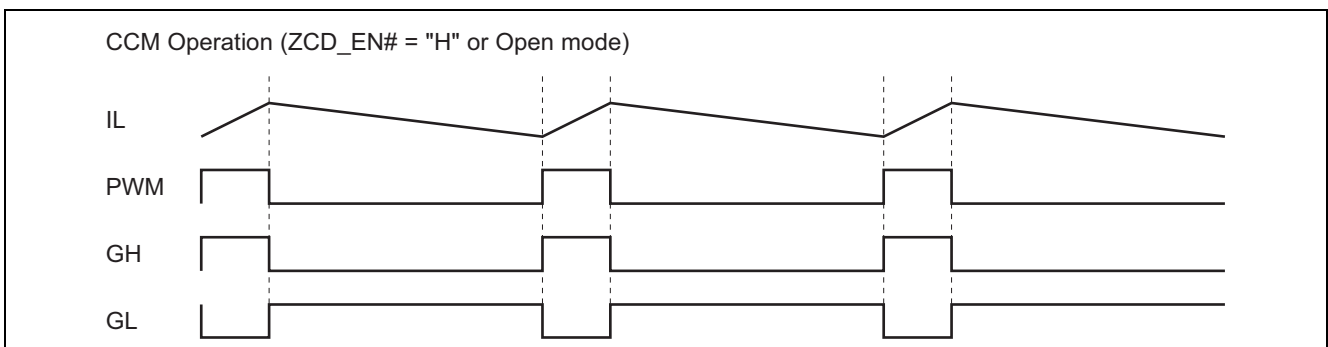
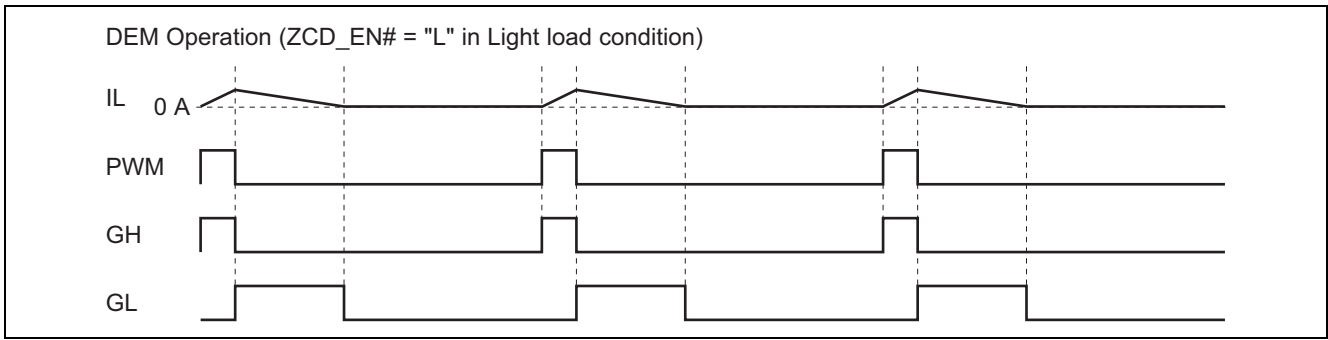

Figure 1.1 Typical Signals during CCM
Figure 1.2 Typical Signals during DEM
Figure 1.1 shows the Typical high side and low side gate switching and Inductor current (IL) during Continuous Conduction Mode (CCM), and figure 1.2 shows DEM when asserting Zero Current Detection Enable signal.